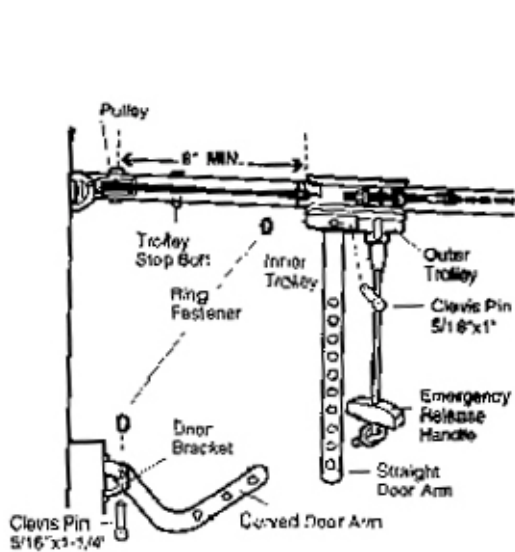

Figure 1
- Slip the curved arms over the rounded edge of each door track, with the curved arms facing the door. Snap into place against the side of the track. It should lie flush, with the top hugging the back edge of the track, as shown in Fig. 1. If your door track will not support the bracket securely, wall installation is recommended.
The illustration shows one piece of angle iron as the horizontal brace. For vertical brace, two piece of angle iron are used to create a "U"-shaped support (Fig. 1). The best solution is to check with your garage door manufacturer for an opener installation door reinforcement kit.
- Mark and drill 5/16" left and right fastening holes. Secure the bracket as shown in Fig. 1 if there is vertical reinforcement.
● Make sure garage door is fully closed. Pull the emergency release handle to disconnect the outer trolley from the inner trolley. Slide the outer trolley back (away from the pulley) for 8" minimum as shown in Fig. 1,2 and 3.
● Fig. 1